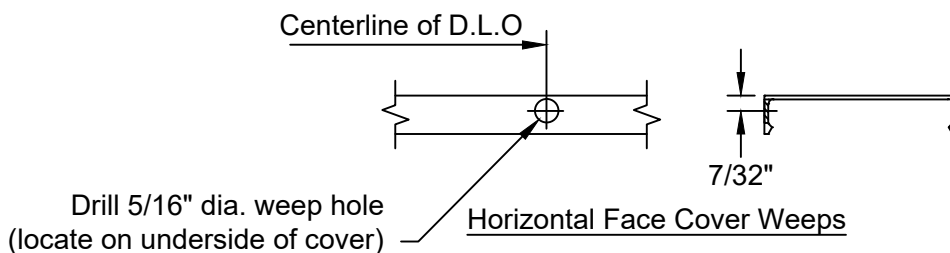

FIGURE 4
- 1.5 Drill (1) 5/16" dia. weep hole at the bottom of each horizontal face cover at the centerline of the D.L.O. SEE FIGURE 4, page 7. NOTE: For SSG applications, face covers typically run across SSG mullions, so there will be multiple holes in each horizontal face cover. Maximum length of horizontal face covers at SSG applications should be 20 feet.